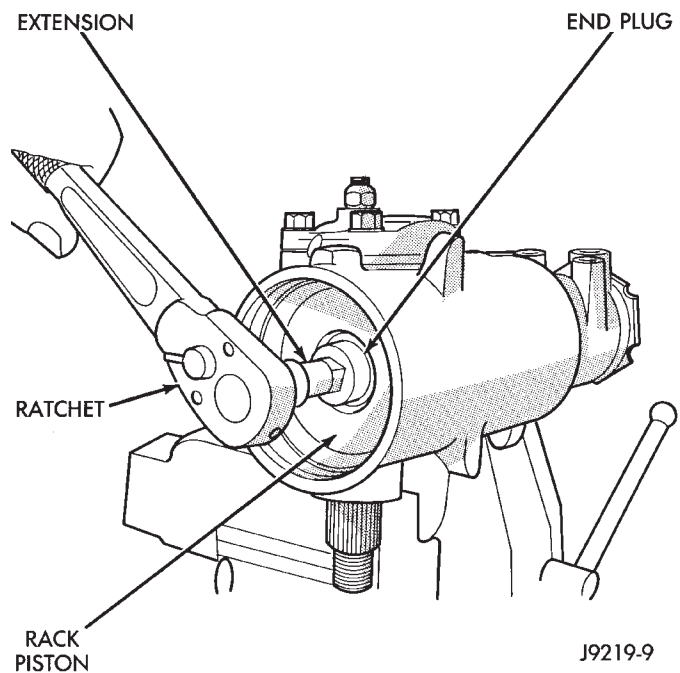

Fig. 29 Remove and Install Rack Piston End Plug
(1) Remove pitman shaft and side cover. Refer to Side Cover and Pitman Shaft Replacement in this section.
(2) Remove housing plug end. Refer to Housing End Plug Replacement in this section.
(3) Turn stub shaft **COUNTERCLOCKWISE** until the rack piston begins to come out of the housing.
(4) Remove rack piston plug (Fig. 29).